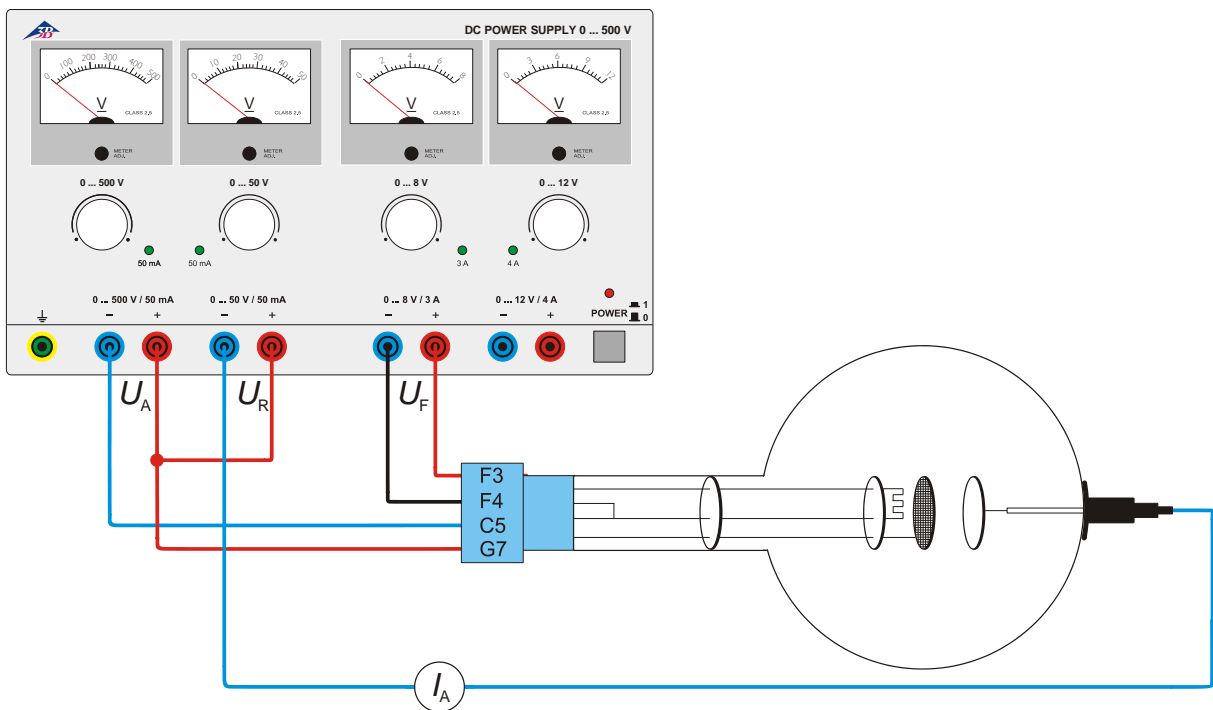

Fig. 4 Franck-Hertz set-up
- Set up the circuit as in fig. 4.